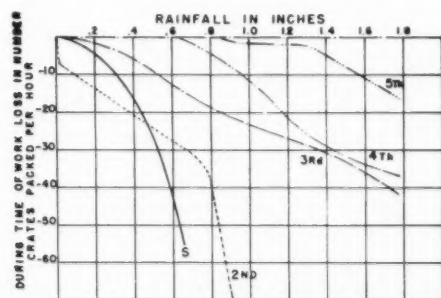

Fig. 5 Variations in crates packed per machine-crew hour creditable to rainfall during the work day and on previous days
4. *The tillage machine should have proper tool head designs for the particular job.* The size, shape, and design of a given tool head, whether it is a plowshare, a disk, or a chisel or cultivation point has considerable influence on the kind of tillage the machine will do. On plows the shape of the moldboard affects the amount of inversion of the soil layer which in turn affects the roughness, the cloddiness, and the burial of residues. On disks the concavity of the disk creates the vertical forces (1) which also affects residues, roughness, and cloddiness. On subsurface tillage tools, sweep blades that are convex upward give more suction and greater pulverization than flat blades (8). High-lift blades give a higher degree of pulverization but tend to furrow and ridge the soil when it is loose (2). On chisels and subsoilers the shape of the points affects both roughness and cloddiness. The effect of a slight change in the shape of a chisel point is shown in Fig. 5.
Fig. 5 An example of the difference in tillage caused by changing tool head designs. Two different chisel points (Upper views) and the type of tillage accomplished by each (Lower views). Both tools were operated at same speed and depth
Variations in output creditable to rainfall are given in Fig. 5. This analysis does not consider zero conditions of output when laborers were not called to work or were released after a rain. From the five curves and the unavoidable no-work periods it is evident that rainfall has a major influence on output.